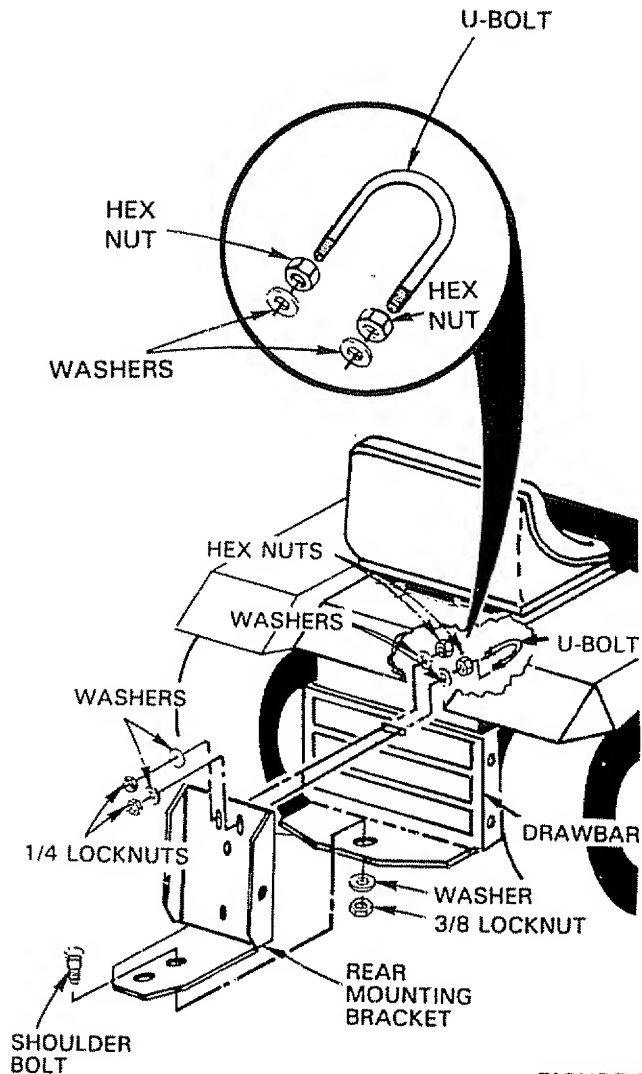

FIGURE 9
1. Locate u-bolt in parts bag. Place two 1/4 hex nuts and two washers (shown full size below) on u-bolt (Fig. 9 - inset).
2. Insert u-bolt through slot in drawbar as shown in Fig. 9.
3. Place the rear mounting bracket (Fig. 9) on u-bolt and secure with two washers and two 1/4 locknuts (shown full size below). Tighten finger tight. Rear mounting bracket and hardware furnished with grass catcher
4. Secure the rear mounting bracket to the drawbar (Fig. 9) using: one shoulder bolt, one washer and one 3/8 locknut (shown full size below). Tighten securely. NOTE: Tighten hardware assembled in step 3. Hardware furnished with grass catcher.